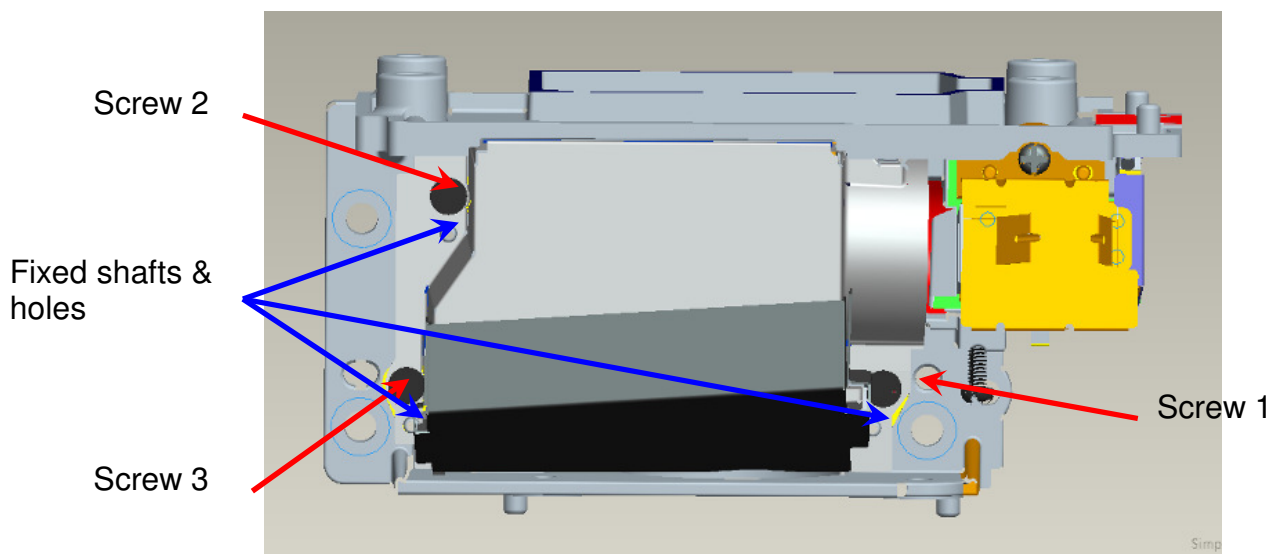

Fig. 4-4
4.4 To assemble ” SUB HSG Module” with “HSG DMD” and cover over on “AL” and the then lock with screws(Fig. 4-4).